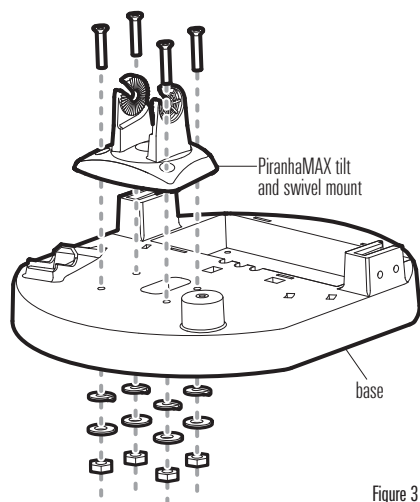

Figure 3
3. Using a socket wrench and a Phillips screwdriver, secure the PiranhaMAX mount to the base with the four included 3/4" (19 mm) screws, lock washers, and nuts (see Figure 3). **Hand tighten only!**